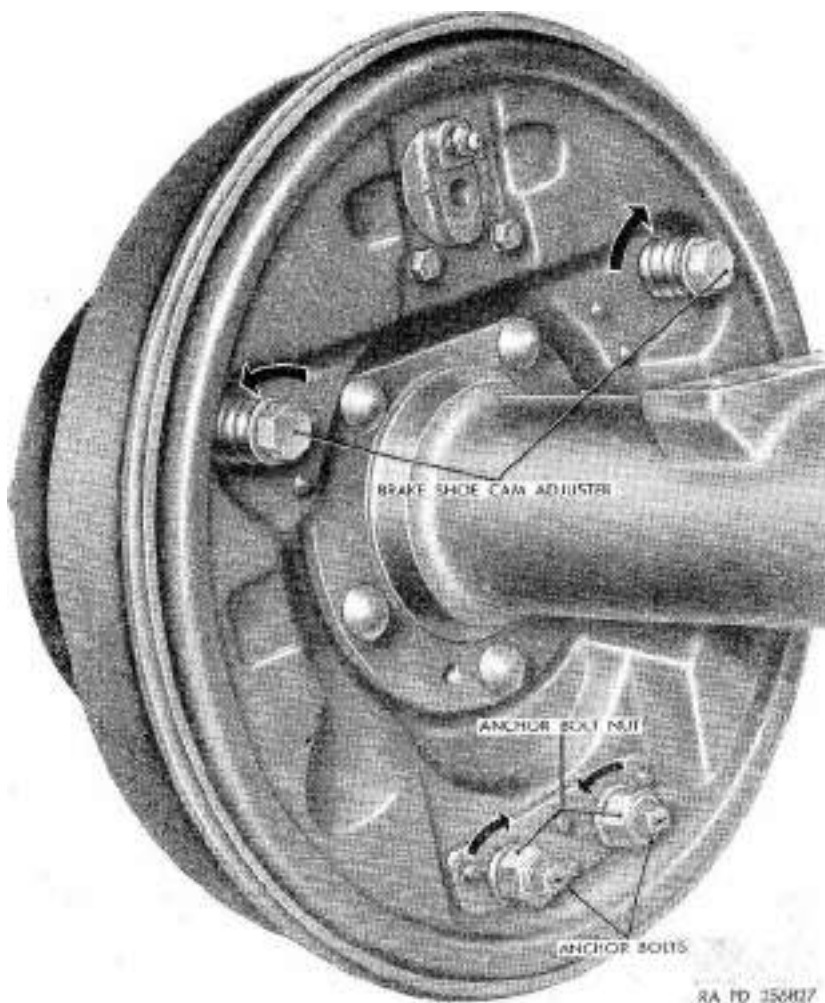

Figure 152 Service brake adjustment points.
- (1) Turn anchor bolts so the arrows point toward each other as indicated on figure 152, but do not tighten nuts.
- (2) Turn brake shoe cam adjusters in direction indicated on figure 152 until the brake shoes drop to lowest point. This will position them for maximum clearance between lining and drum.